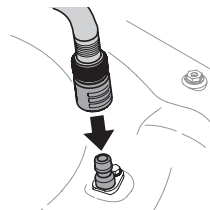

Figure 35
3. Attach garden hose with the deck wash nozzle to the water port on your deck's surface (Figure 35).